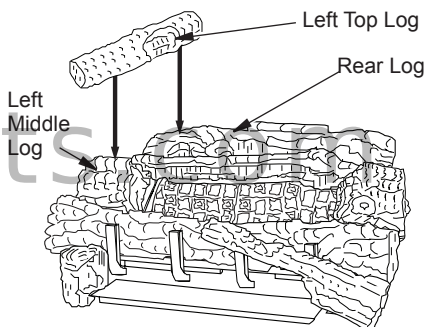

**Figure 30 - Installing Rear Middle Log**
7. The rear middle log should fit between the ramp log and the rear burner. The left and right middle logs have recessed areas for the rear middle log to sit into (See Figure 30). Be careful not to push the rear burner out of position while installing this log.